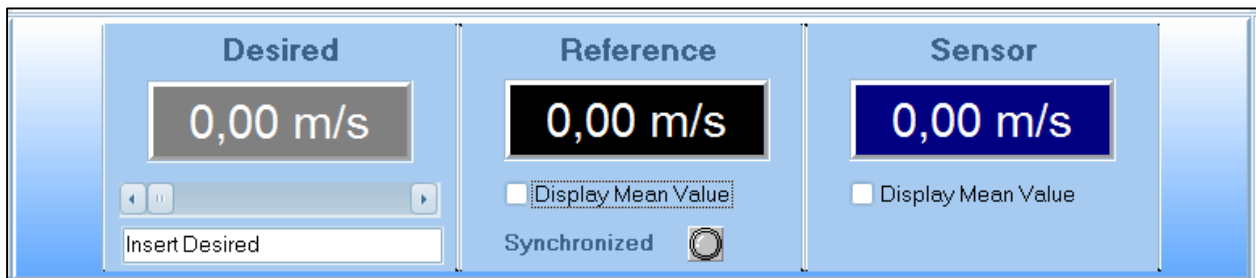

Figure 10: Three Panels displaying Wind speeds
1. Click into the **mask** at the panel of the *Desired speed of Wind tunnel* named **Desired** and insert the desired value or alternatively use the **regulating bar** (See Figure 10).